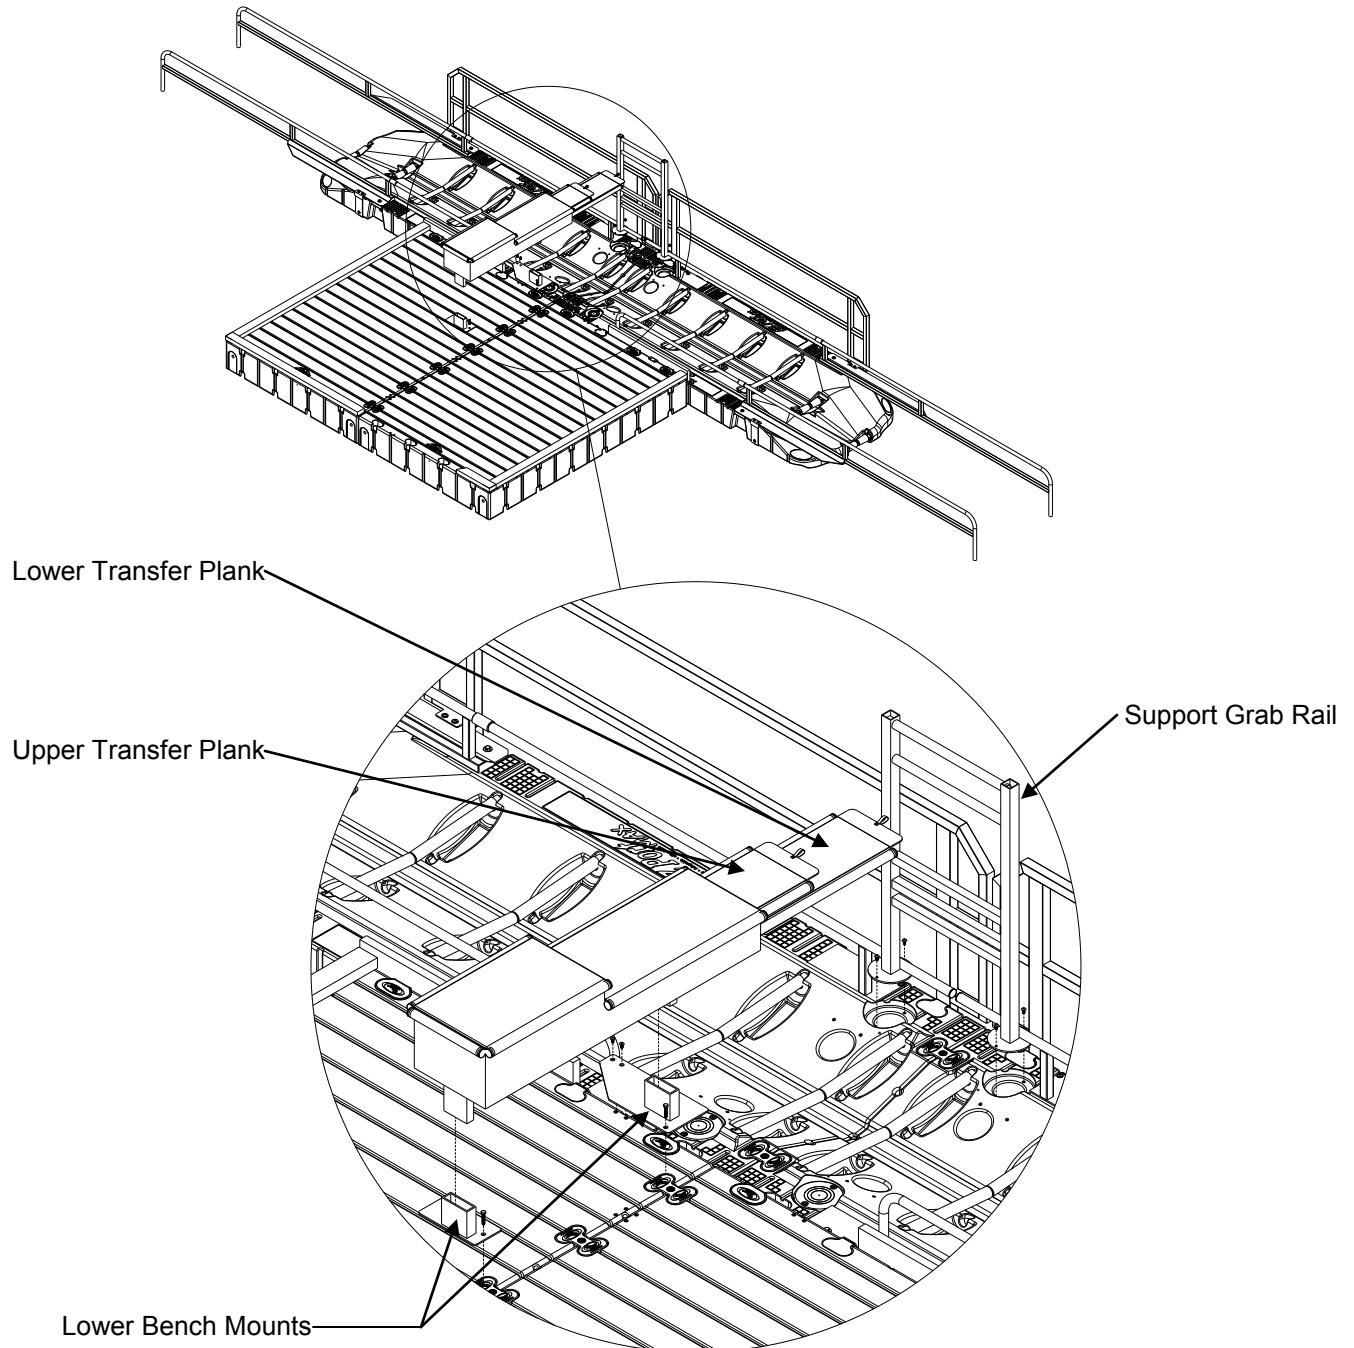
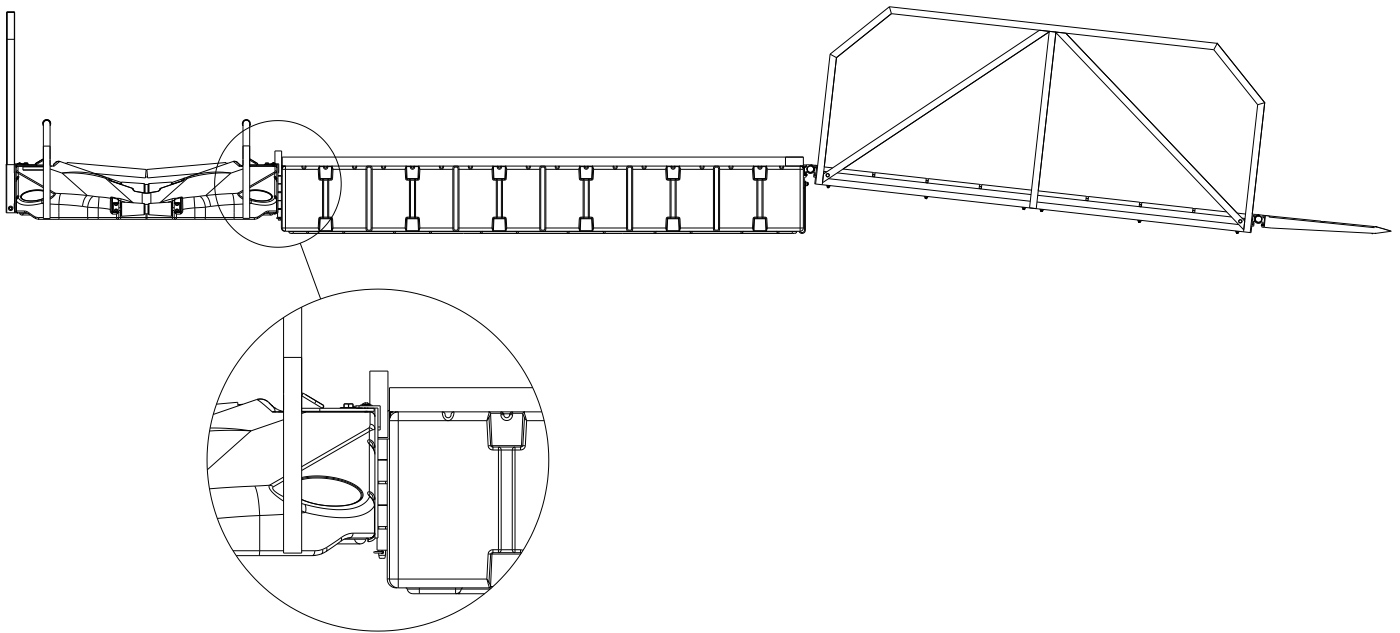

Figure 14
Figure 20
**Note:** Typical installation of EZ Launch to EZ Dock yields a step down from the EZ Dock to the Port Launch as shown in Figure 14. The 100757SS kit includes two hinge bracket for connection points on two separate dock pockets. This kit attaches the EZ Launch to EZ Dock product. Refer to Port MAX owner's manual for in-line configuration assembly steps.
**Note:** Typical installation of the EZ Launch to EZ Dock yields a step down from the EZ Dock to the EZ Launch as shown in Figure 14. Ballasting EZ Dock dock sections will allow for a flush walking surface with the EZ Launch, see Figure 20. The 100757SS kit includes two hinge bracket for connection points on two separate dock pockets. This kit attaches will attach the EZ Launch to a ballasted EZ Dock product. Refer to Port MAX owner's manual for in-line configuration assembly steps.
- Align hinge tabs with the shorter hook hinge tabs above the longer hook hinge tabs then insert pin through hinge and secure in place using clips provided as shown in Figure 20.
The hinge dock adapter plate (Item 5) may be installed with the hinge point on the top as shown in (Figure 20). All other installation is the same as on previous page.